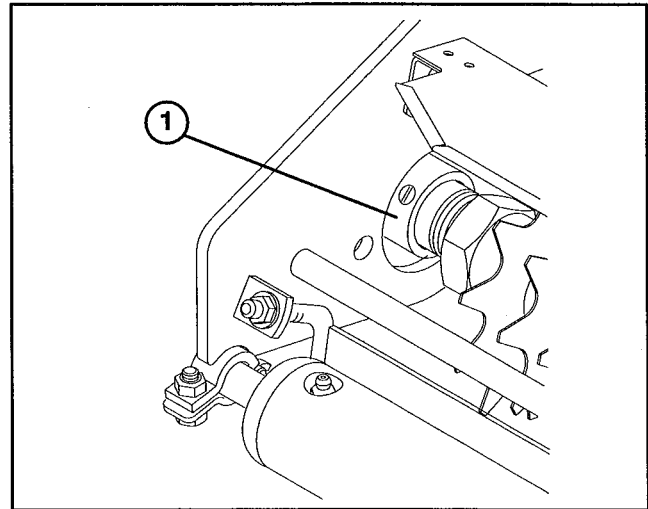

Figure 12
4. Remove setscrews from locking collars on reel bearings (Fig. 12).